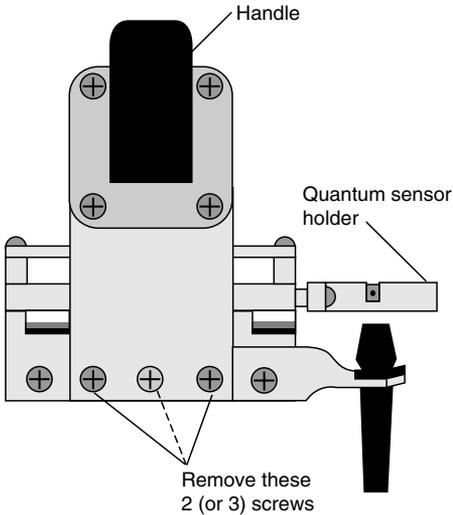

Figure 2-7. Remove the screws on the back side of the handle.
- c. Remove the 2 screws (3 on some instruments) on the back side of the handle, as shown in Figure 2-7, using a #1 Phillips head screwdriver. Be careful not to lose the spacer that is between the handle mounting plate and the hinge.